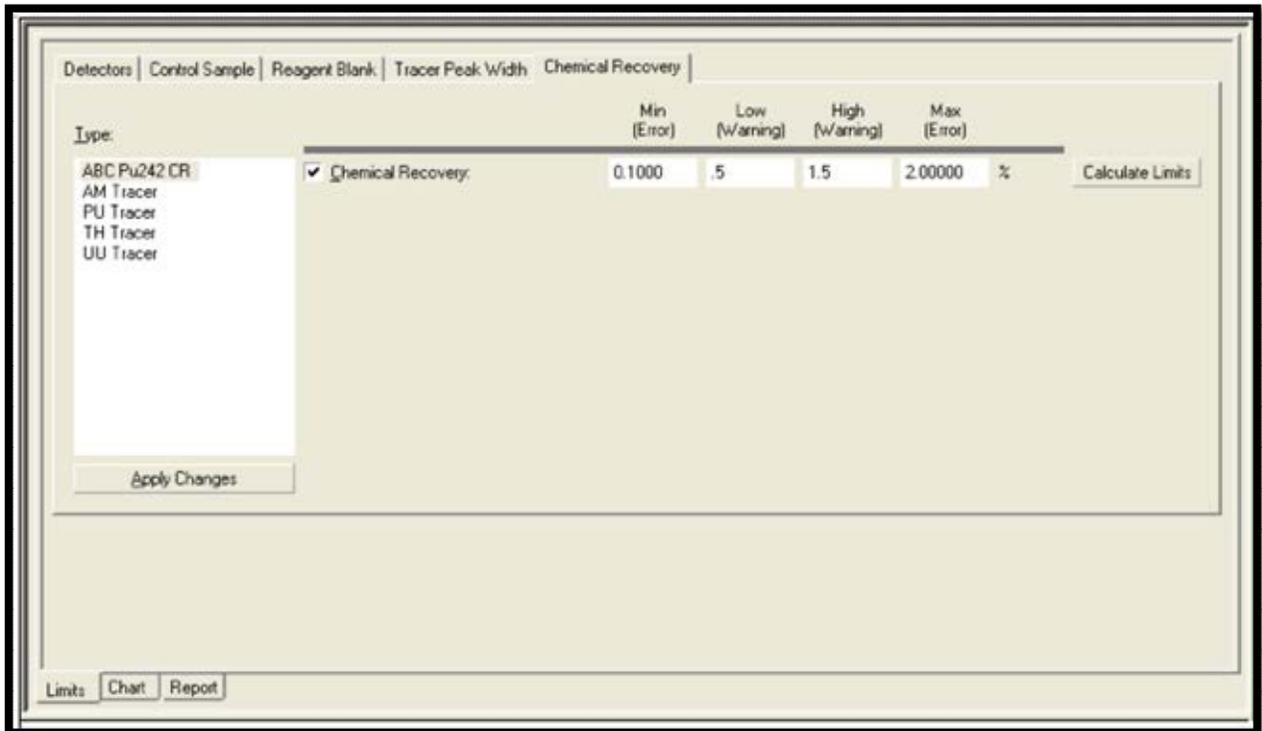

Figure 198. Chemical Recovery Checkbox - Apply Changes
- 2) In the list of Chemical Recovery types, select *ABC Pu242 CR*. Click the **Chemical Recovery** checkbox so *ABC Pu242 CR* will be evaluated during the Chemical Recovery QA test that follows. Now enter the **Min**, **Low**, **High**, and **Max** control limits. When the limits are finished updating, click **Apply Changes** (Figure 198).